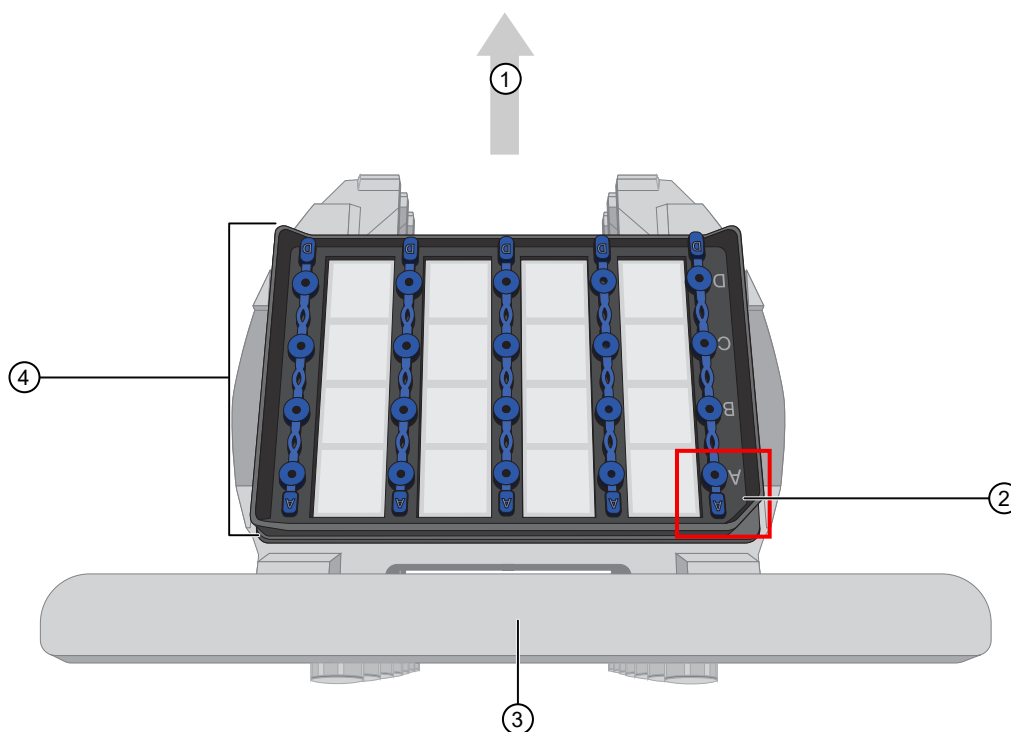

Figure 31 MAP plate in a hotel
1. Place each MAP plate into a plate nest in the hotels or stacks using the orientation shown in Figure 31.
Note: Figure 31 represents a plate loaded in a hotel plate nest. The same orientation is used for stack plate nests.